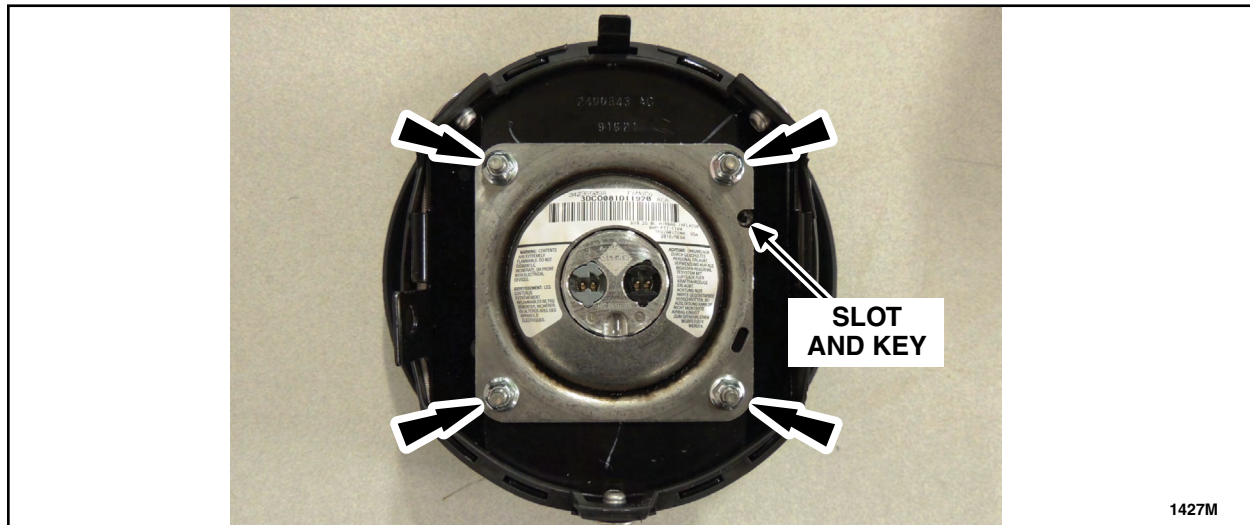

FIGURE 3
6. Align the key on the driver airbag with the slot on the *new* inflator. Install the *new* inflator into the driver airbag. See Figure 3.
7. Install four *new* airbag inflator nuts onto the driver airbag. See Figure 3.